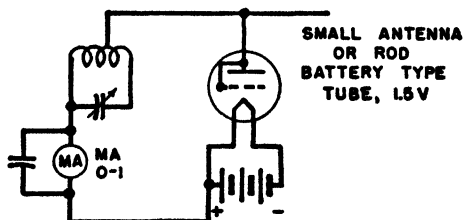

FIG. 4-9.—Simple carrier-shift indicator.
*Ans.* Figure 4-9 illustrates an arrangement for determining carrier-shift of a radiotelephone transmitter.